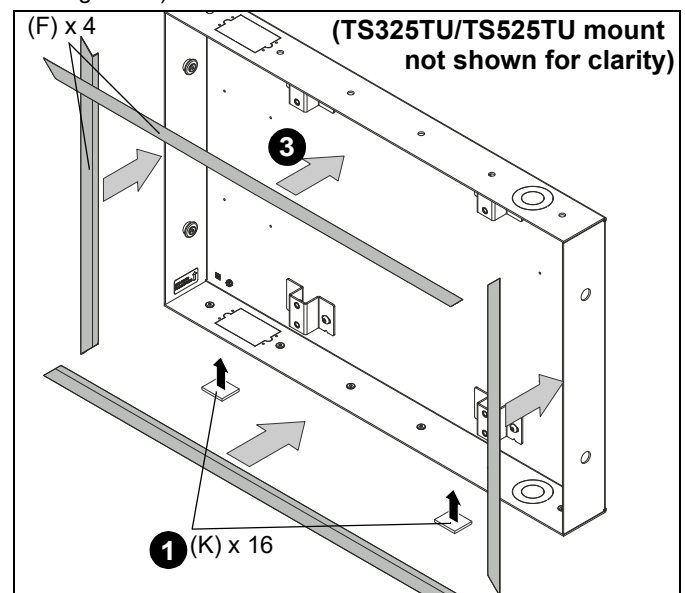

Figure 14
1. Remove paper covering adhesive and affix three tape squares (K) to inside lower flange of each trim piece (F). (See Figure 14)
2. Orient trim pieces (F). (See Figure 14)
3. Remove paper covering adhesive back from tape squares (K) on trim and press trim (F) against inner wall of box. (See Figure 14)